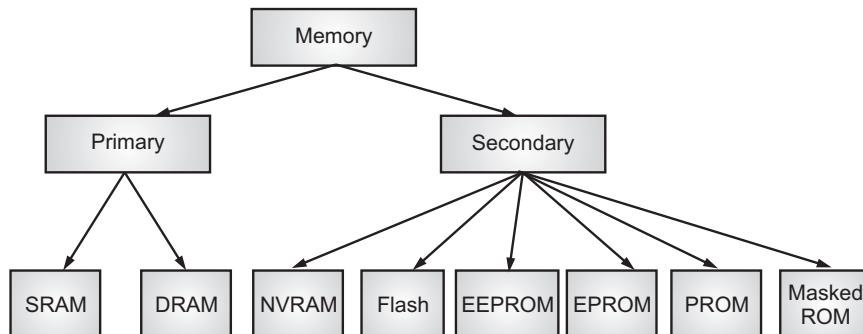

Fig. 1.4: Types of Memories
- Basic types of memories are primary and secondary and then RAM (Random Access Memory) and ROM (Read only Memory) as shown in below Fig. 1.4.
- As shown in Fig. 1.4, types of primary memory are SRAM (Static Random Access Memory) and DRAM (Dynamic Random Access Memory).